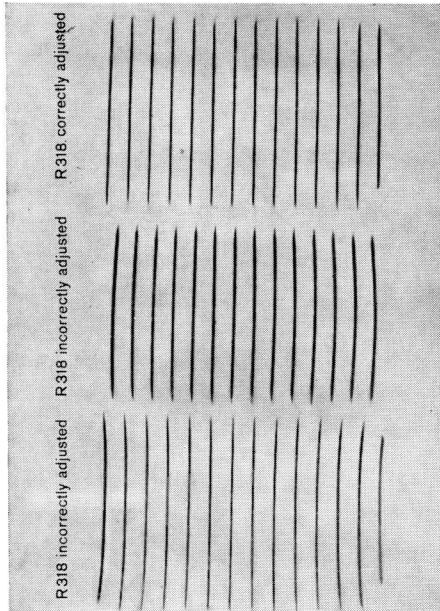

Fig. 58. Adjustment of "Pattern distortion" control
6. CRT Geometry (Fig. 58)
Potentiometer "PATT. DIST." (R318) should then be adjusted for minimum curvature of the vertical lines. See also Fig. 58.